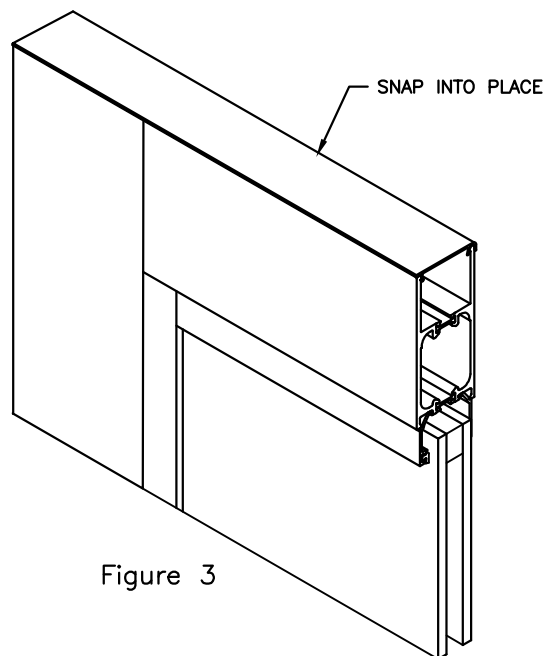

Figure 3
3. Snap the P6240 into place at the top and bottom of the door. See Figure 3